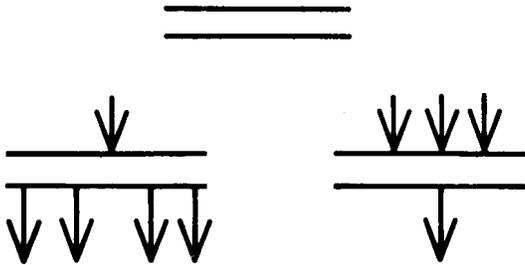

Fig. 23—Parallel Mode Symbol
2.23 *The parallel mode symbol* (Fig. 23) represents the beginning or end of two or more simultaneous operations.